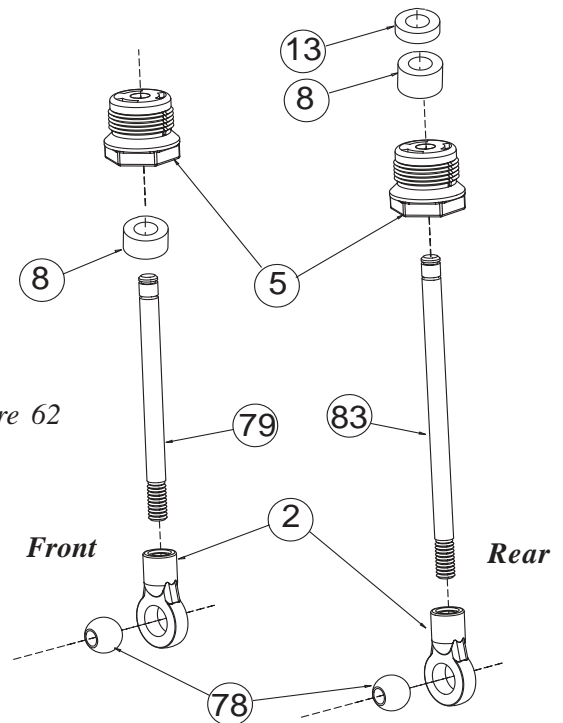

Figure 62
- ❑ 1. Place a "A" spacer (8) on each of the front shock shafts.
- ❑ 2. Place a drop of shock fluid (189) on the grooved end of each shock shaft (79, 83) and slide a cartridge, hex end first, down the shock shaft towards the threads on all four shafts as shown in Figure 62.
- ❑ 3. Using pliers or small vise grips, grasp the shock shaft between the grooves and thread a shock end (2) all the way onto the shaft until the threads stop. Do this for all shock shafts.
- ❑ 4. Place one "B" Spacer (8) and one 0.060 spacer (13) on each rear shock shaft above the shock cartridge cap (6).
- ❑ 5. Carefully snap a 1/4" shock mount ball (78) into each of the shock ends on each of the four shock shafts.